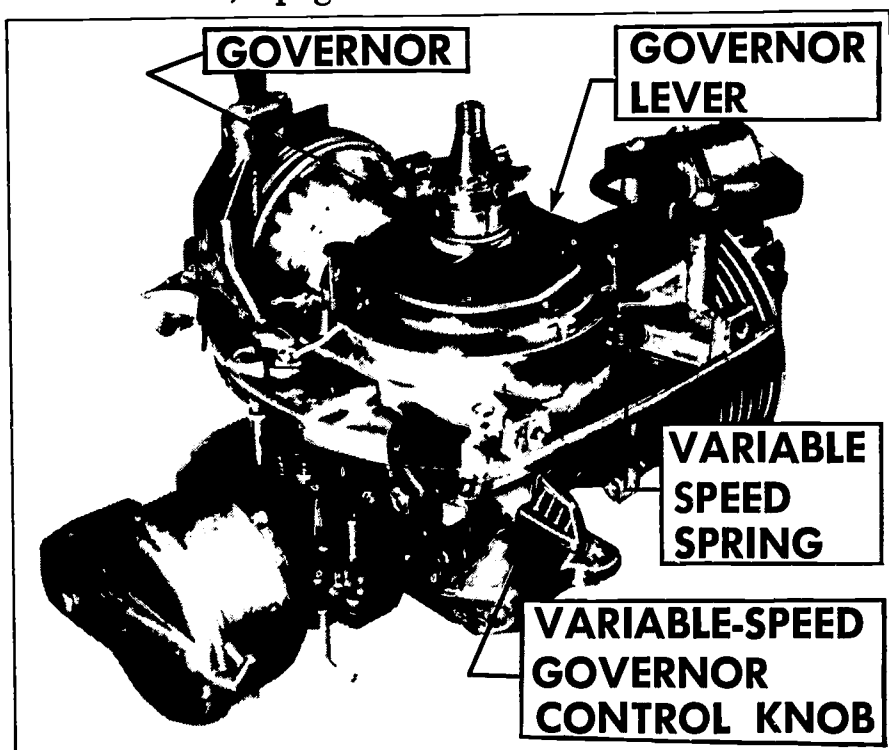

FIGURE 168. One type of centrifugal governor mounted on the flywheel end of the crankshaft outside of the crankcase.
c. If the governor is the **centrifugal type mounted outside of the crankcase** (Figure 168), use the procedures that follow. There are several variations of this type of governor. If the procedures given here are not sufficient for your engine, consult your service manual.
2. *Disconnect the variable-speed spring attached to the governor lever (Figure 168).*